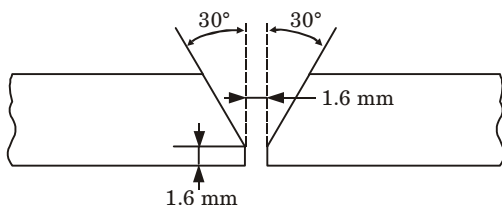

Fig. 5.28.1.
2. Joint for pipeline welding is shown in Fig. 5.28.1.